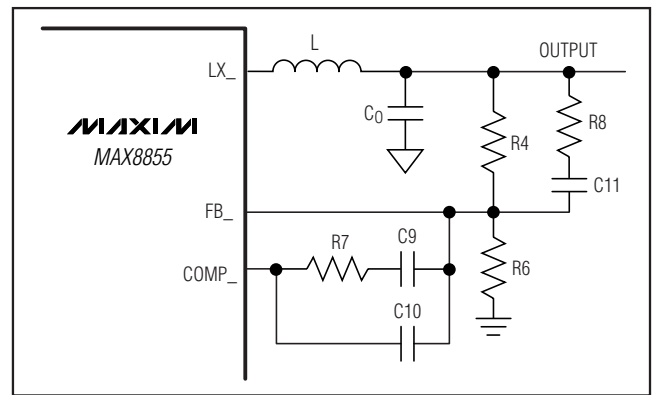

Figure 4. Type III Compensation Network
The output voltages for regulator 1 (with REFIN connected to SS1) and regulator 2 are set with a resistor voltage-divider connected from the output to FB_ to GND as shown in Figure 4. Select a value for the resistor connected from output to FB_ (R4 in Figure 4) between 2kΩ and 10kΩ. Use the following equations to find the value for the resistor connected from FB_ to GND (R6 in Figure 4):
The high-switching-frequency range of the MAX8855 allows the use of ceramic output capacitors. Since the ESR of ceramic capacitors is typically very low, the frequency of the associated transfer-function zero is higher than the unity-gain crossover frequency, f_{C} , and the zero cannot be used to compensate for the double pole created by the output filtering inductor and capacitor. The double pole produces a gain drop of 40dB and a phase shift of 180° per decade. The error amplifier must compensate for this gain drop and phase shift to achieve a stable high-bandwidth closed-loop system. Therefore, use type III compensation as shown in Figure 4. Type III compensation possesses three poles and two zeros with the first pole, $f_{\text{P1_EA}}$, located at 0Hz (DC). Locations of other poles and zeros of type III compensation are given by: